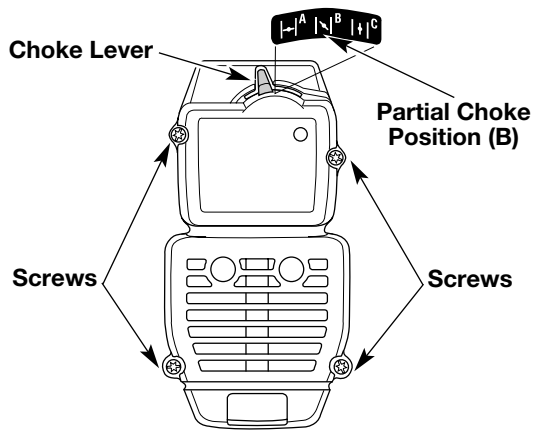

Fig. 28
1. Place the choke lever in the **PARTIAL** choke position (B).
**NOTE:** The choke lever must be in the **PARTIAL** choke position (B) (Fig. 28) to remove the air filter/muffler cover.
2. Remove the four (4) screws securing the air filter/muffler cover (Fig. 28). Use a flat blade or # T20 Torx bit screwdriver.